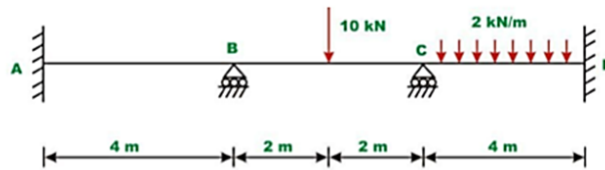

Figure 7
5. Analyze the continuous beam shown Figure 7. Assume that the supports are unyielding. Assume that  $EI$  is constant for all members, using Flexibility Method. [14M]